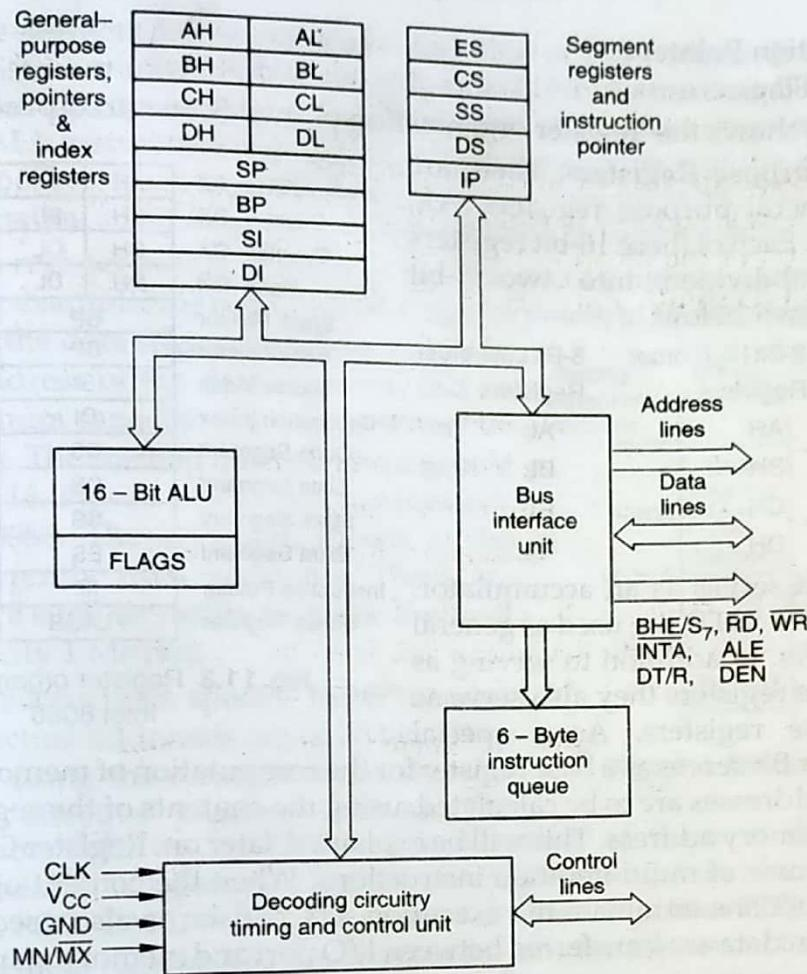

Fig. 11.2 Block Diagram of Intel 8086 Microprocessor
The 8086 contains two independent functional units: a bus interface unit (BIU) and an execution unit (EU). Figure 11.2 shows the block diagram of 8086 microprocessor. The general purpose registers, stack pointer, base pointer and index registers, ALU, flag register (FLAGS), instruction decoder and timing and control unit constitute execution unit (EU). The segment registers, instruction pointer and 6-byte instruction queue are associated with the bus interface unit (BIU).